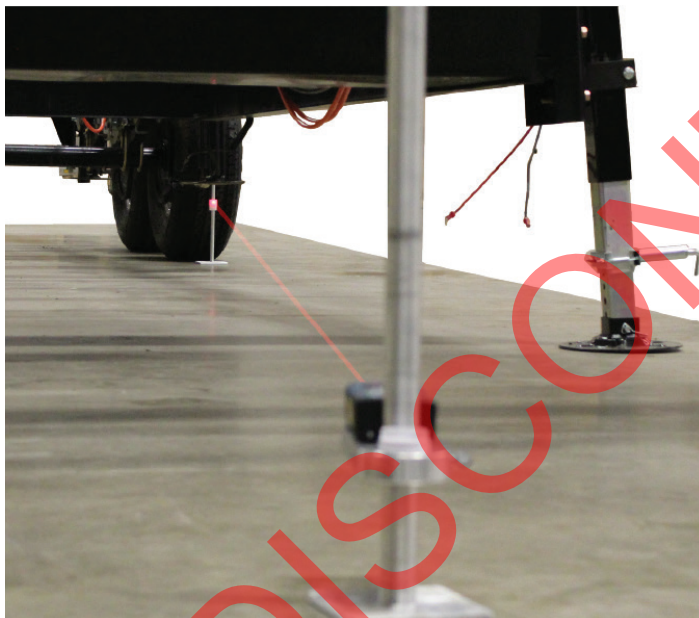

Fig.28
5. Align the laser with each target (**Fig.28**) and record the measurements on the customer form.